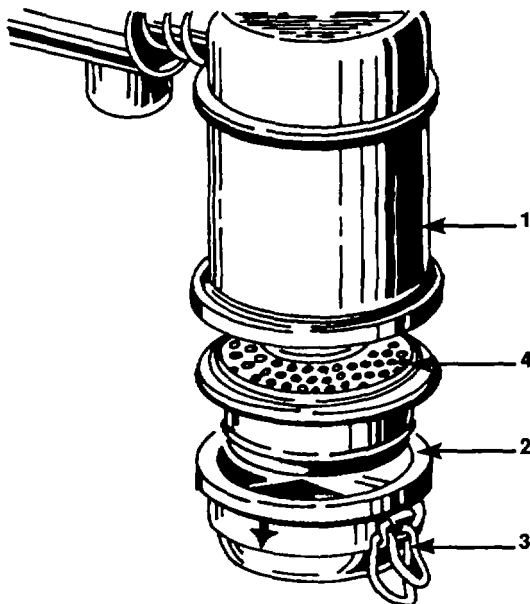

Figure 3-30. Oil Bath Air Cleaner
- a Release the two clips (3, figure 3-30) on the sides of the filter housing (1). The bowl and metal filter should drop out easily.